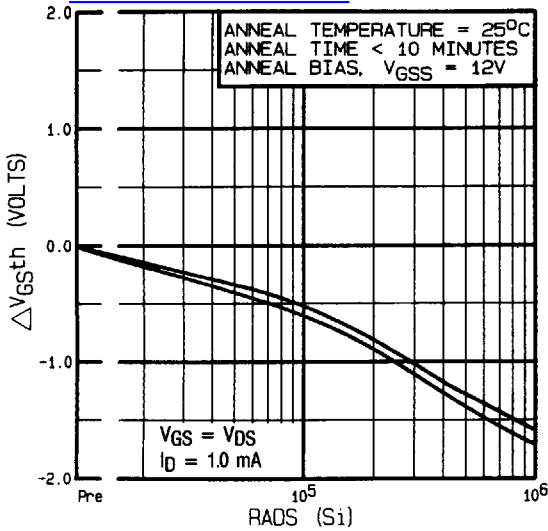
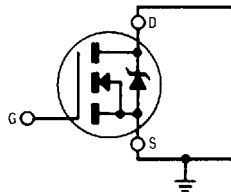
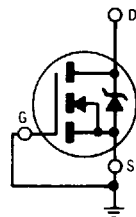
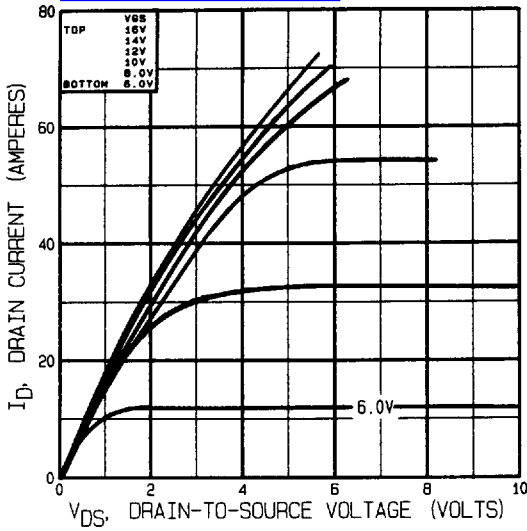

Fig. 1 — Typical Response of Gate Threshold Voltage Vs. Total Dose Exposure
Fig. 8a — Gate Stress of V_{GSS} Equals 12 Volts During Radiation
Fig. 8B — V_{DSS} Stress Equals 80% of B_{VDSS} During Radiation
Fig. 10 — Typical Output Characteristics Pre-Radiation
Every manufacturing lot is tested in a low dose rate (total dose) environment per MIL-STD-750, test method 1019. International Rectifier has imposed a standard gate voltage of 12 volts per note 7 and figure 8a and a V_{DSS} bias condition equal to 80% of the device rated voltage per note 8 and figure 8b. Pre and Post radiation limits of the devices irradiated to 1x10⁵ Rads (Si) are identical and are presented in table 1, column 1, IRHM7250. Device performance limits at a post radiation level of 1x10⁶ Rads (Si) are presented in Table 1, column 2, IRHM8250. The values in Table 1 will be met for either of the two low dose rate test circuits that are used. Typical delta curves showing radiation response appear in Figures 1 through 5. Typical post radiation curves appear in Figures 10 through 17.
⑦ Total Dose Irradiation with V_{GS} Bias. +12 volt V_{GS} applied and V_{DS} = 0 during irradiation per MIL-STD-750, method 1019. (See figure 8a)
⑧ Total Dose Irradiation with V_{DS} Bias. V_{DS} = 0.8 rated BV_{DSS} (pre-radiation) applied and V_{GS} = 0 during irradiation per MIL-STD-750, method 1019. (See figure 8b)